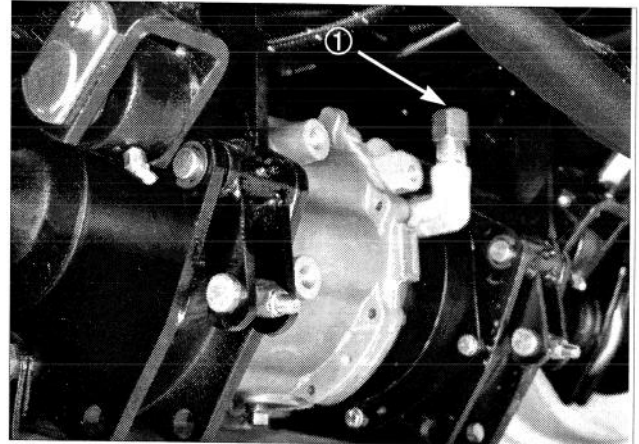

Figure 7.
3. Unscrew the dipstick cap (Fig. 7) from the filler neck and wipe it with a clean cloth. Screw the dipstick cap finger tight onto the filler neck. Unscrew the dipstick and check the level of lubricant. If the level is not within 12 mm (1/2 in.) from the groove in the dipstick, add enough to raise the level to groove mark. **DO NOT OVERFILL** by more than 12 mm (1/2 inch) above the groove.